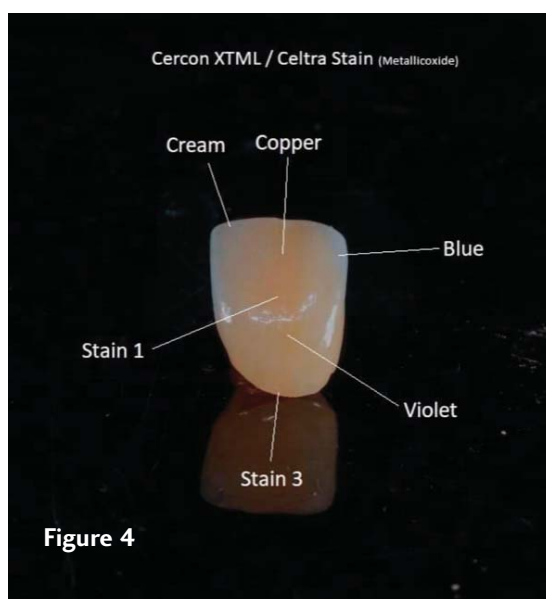

Figure 4
- These steps can be followed by polishing or buffing. The result is in **Figure 4**.